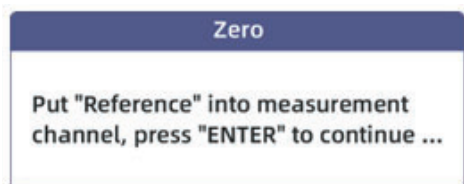

Fig. 6-7 Do blank
- According to the prompt (Figure 6-7), place the “reference” in the measurement channel, close the sample room, and press “**ENTER**” to do blank;